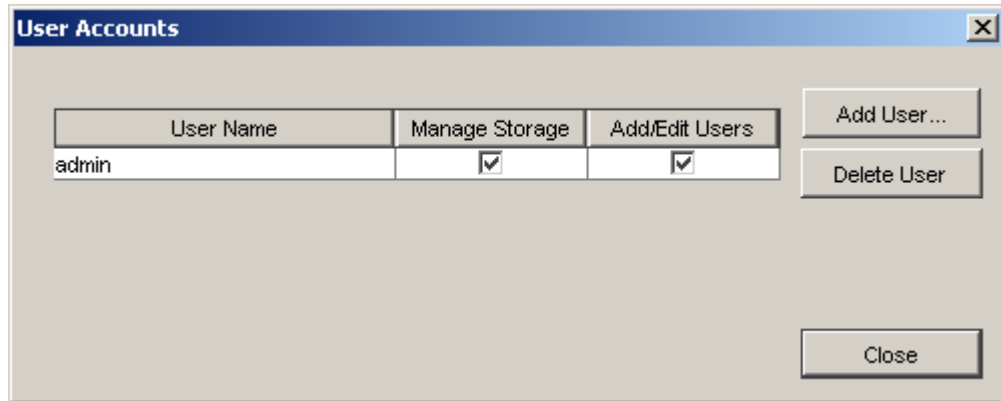

Figure 5-49. User Accounts Screen
2. On the **View** menu, click **User Accounts**. The User Accounts screen appears, with a list of the user accounts that have been defined (see Figure 5-49).
1. On the **View** menu, click **User Accounts**. The User Accounts screen appears, with a list of the user accounts that have been defined (see Figure 5-49 on page 115).